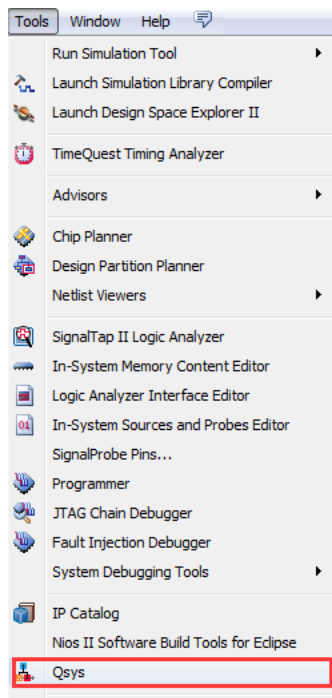

Figure 8-4 Qsys Menu
1. Open Quartus project and choose **Tools > Qsys** to open new **Qsys** system wizard .See **Figure 8-4**.